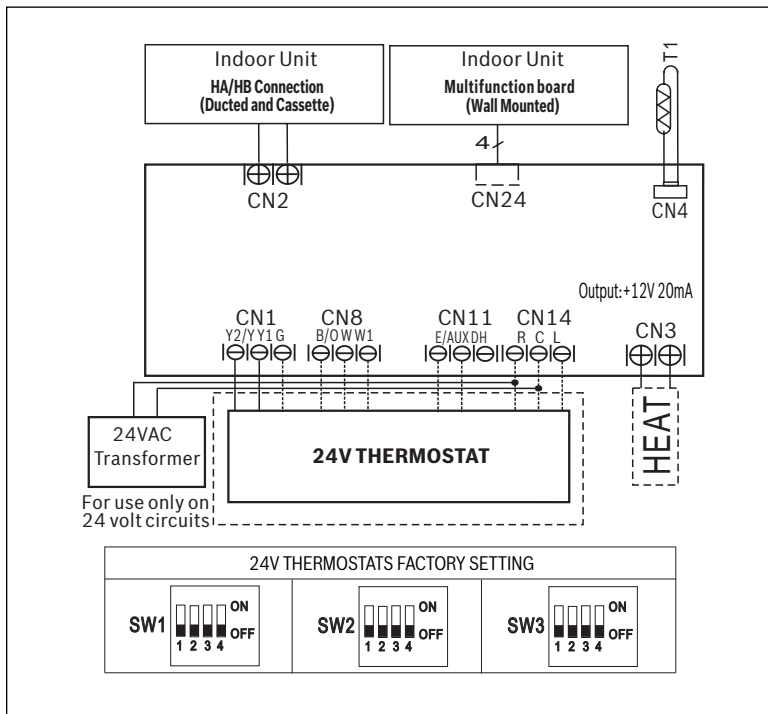

Figure 5
5. Make sure that all the connections are according to the wiring diagram (Figure 5). Ensure that the 24V Transformer (installer-supplied) is connected correctly.